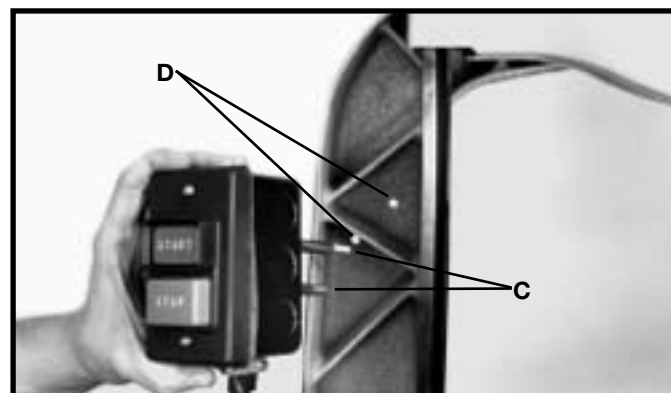

Fig. 13
4. Insert two screws (C) Figs. 13, located on back of switch box, into two holes (D) located in the band saw arm.